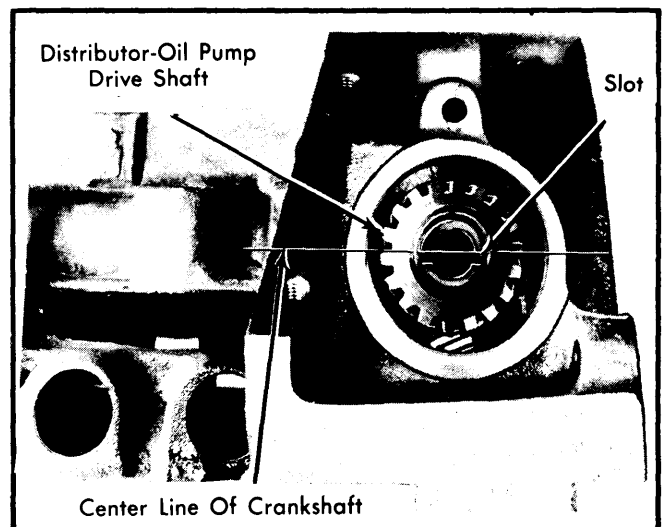

Fig. 18 Distributor Drive Gear Slot Alignment
**Distributor Timing** — Before installing distributor-oil pump drive shaft, time engine as follows: Rotate crankshaft so number one cylinder is at top dead center on the firing stroke (both valves closed). Straight line on vibration damper should be under "O" on timing indicator. Coat shaft and drive gear with engine oil. Install shaft so that when gear spirals into place, it will index with oil pump shaft and slot in top of drive gear will be parallel with centerline of crankshaft. See Fig. 18.